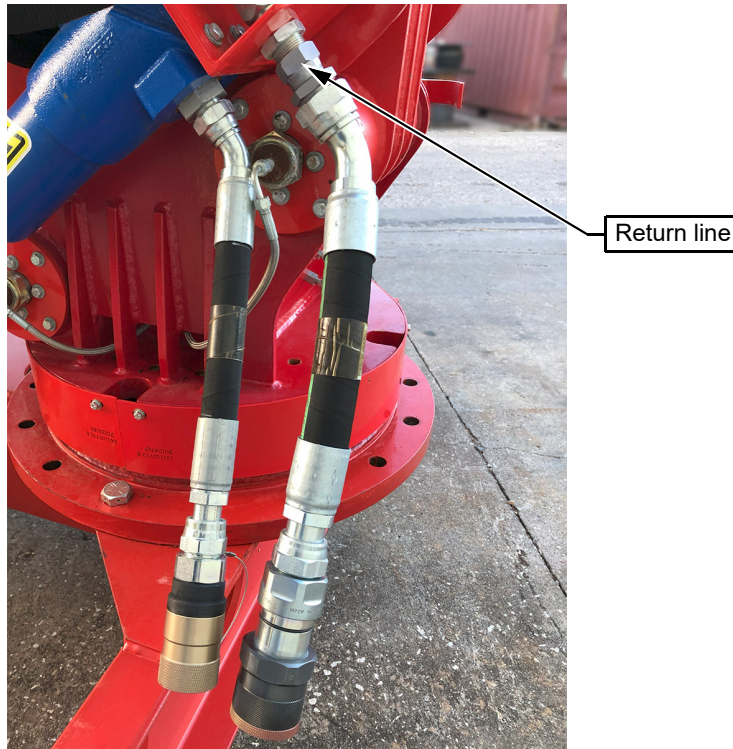

Figure 3: HPU return line removed
3. Remove HPU return line from hydraulic filter mounting bracket as shown in Figure 3.